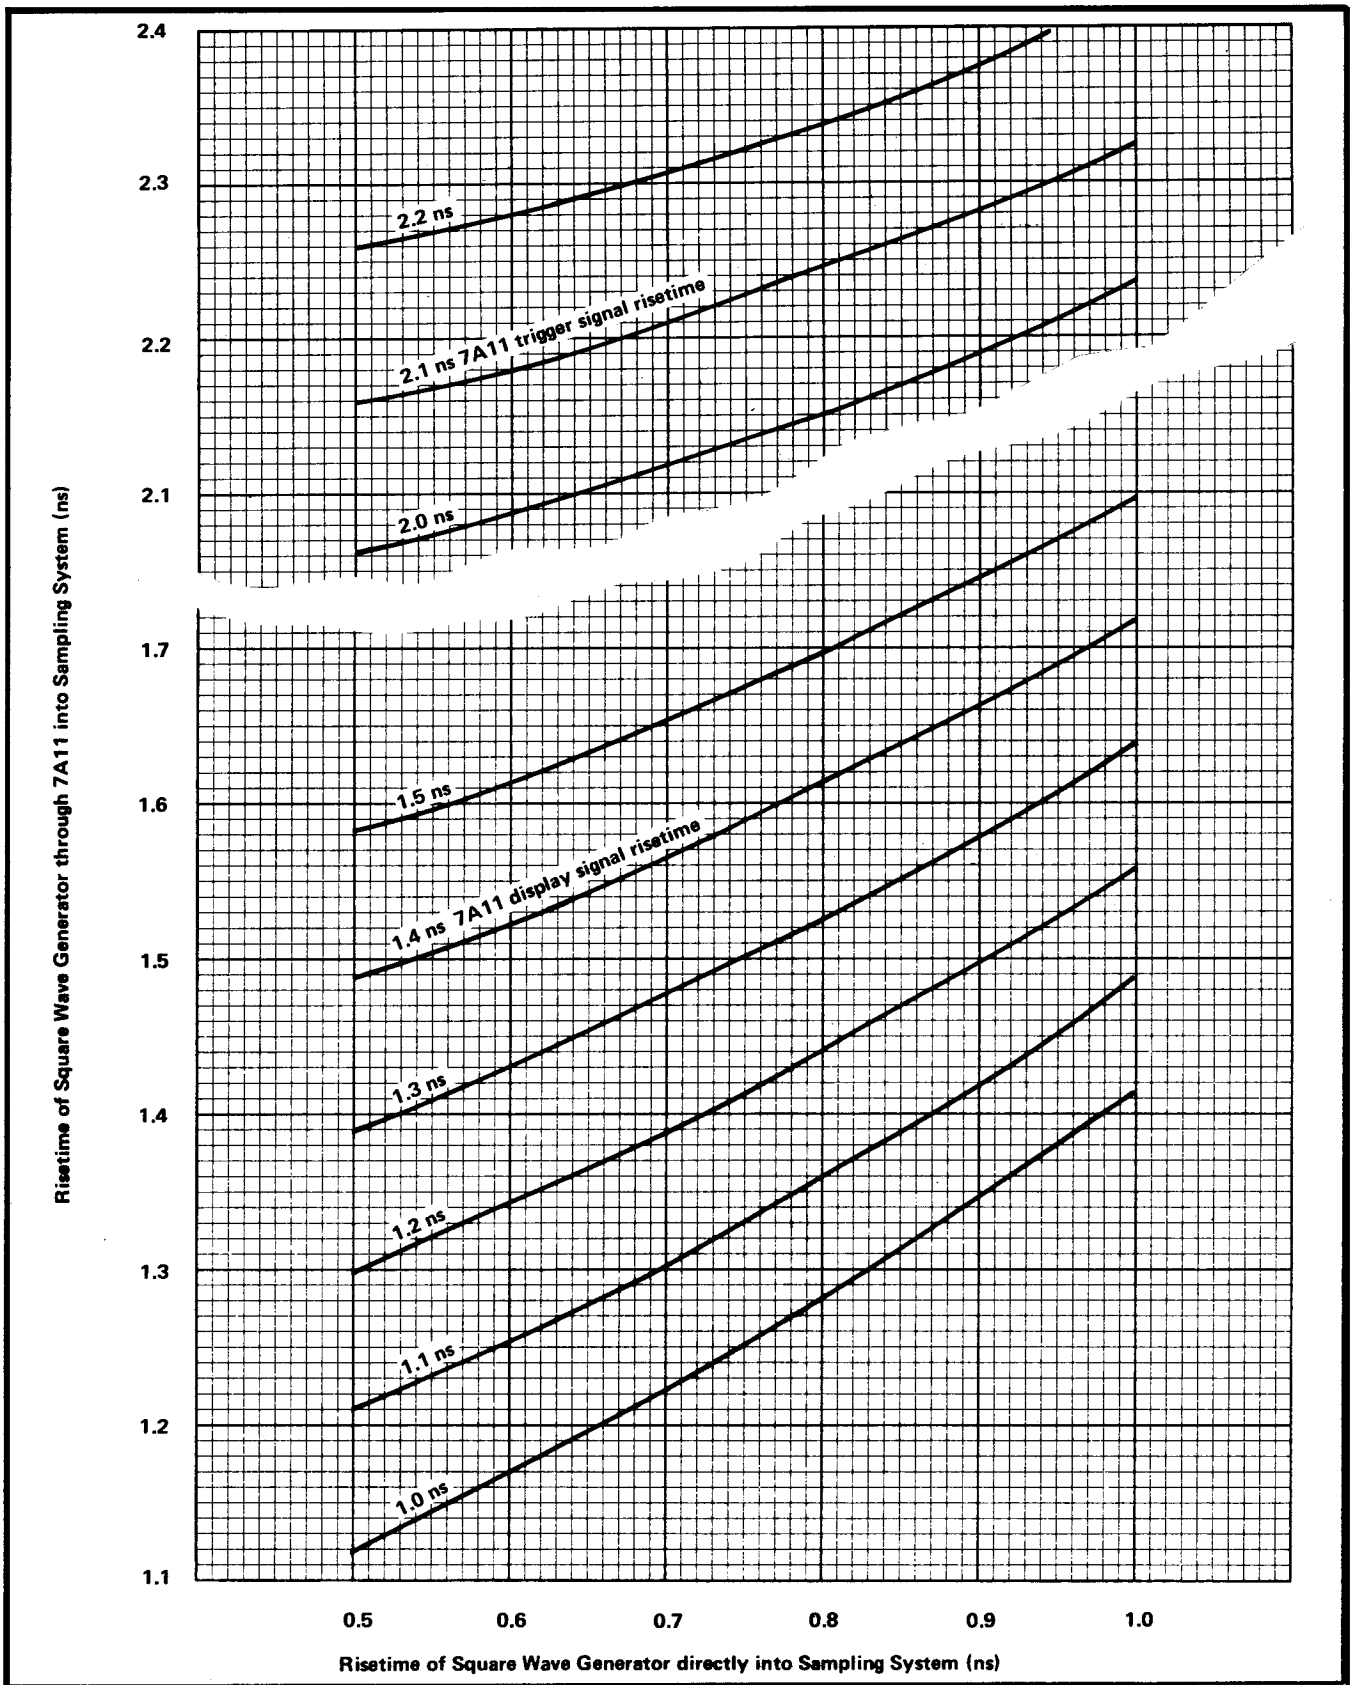

Fig. 5-18. 7A11 risetime computation chart.
l. CHECK—7A11 risetime. Apply the Type 106 - 7A11 - Sampling System risetime and the Type 106 - Sampling System risetime from step 12-d (4) to the graph in Fig. 5-18 and determine the 7A11 risetime. It should be 1.4 ns or less.
p. Switch the 7A11 VOLTS/DIV to 2 V, set the Sampling System Channel A and Channel B mVolts/Div controls to 2 mV and the Sampling System sweep rate to 500 ps. Adjust the Type 106 Square Wave Generator to obtain a 5 division display and measure the risetime between the 10% and 90% amplitude points. Determine the 7A11 risetime from Fig. 5-18.
e. Determine the point at which the risetime intercepts the Type 106-3S1 risetime on the graph in Fig. 5-18.